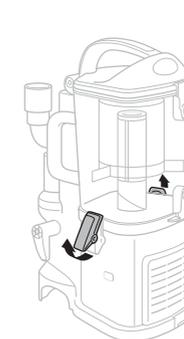

Fig. 18
- Undo the latches on the sides of the dust cup by lifting them up and outwards to remove the dust cup from the motor base. (Fig. 18)